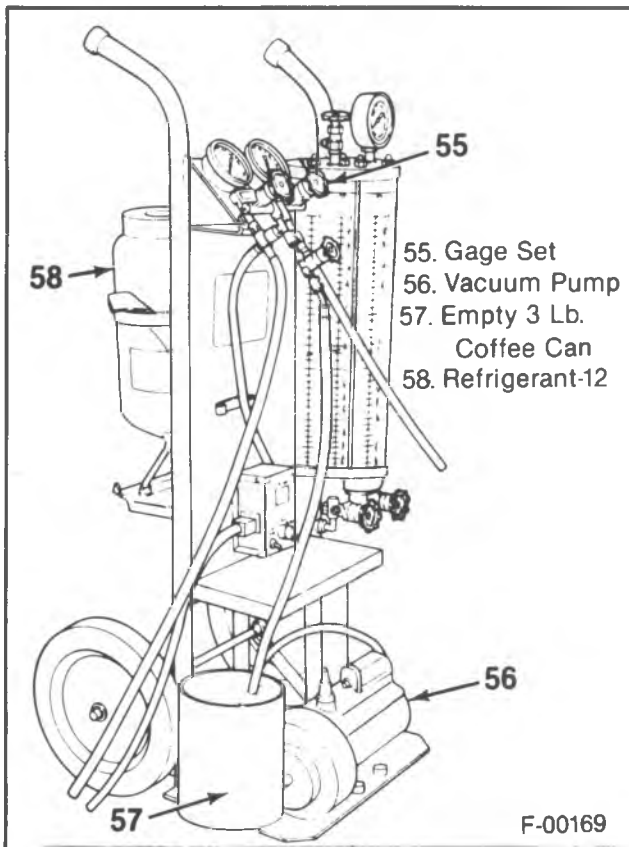

Figure 24 — J 23500-01 Charging Station
Discharge, evacuate and charge using J 23500-01 air conditioning service Charging Station or the J 23575-01 Manifold Gage Set, and 0.397 kg. (14 oz.) disposable cans of Refrigerant-12 (figures 24 and 25).
2. With the ignition turned OFF, remove the protective cap from LOW SIDE service fitting and connect Charging Station J 23500-01 Gage Set. (Refer to figure 24.)